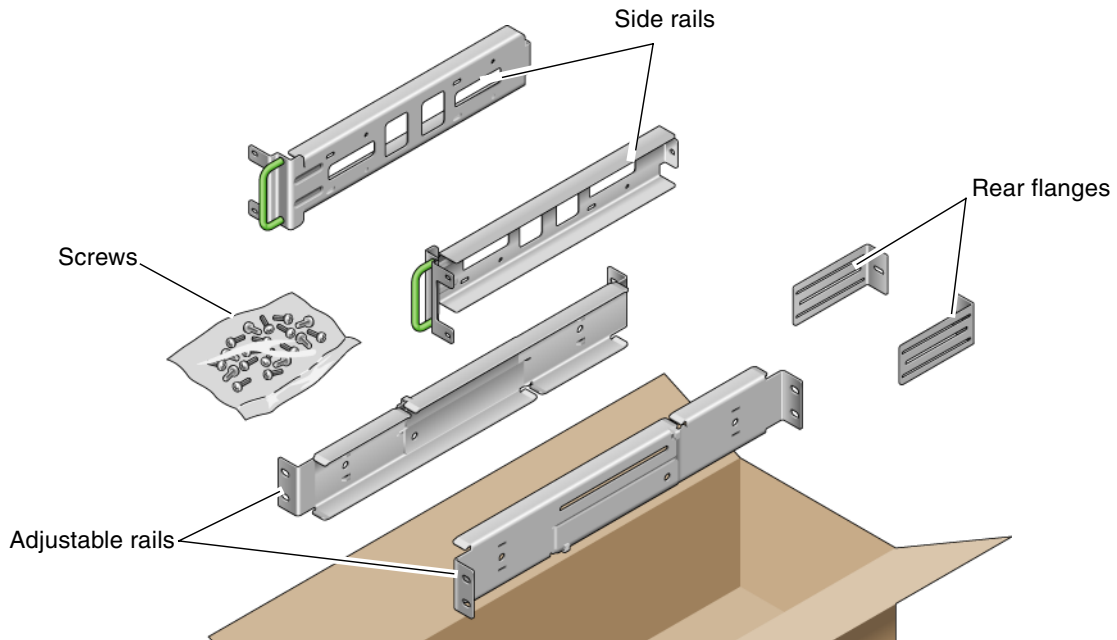

FIGURE 3-14 Contents of the Hardmount 600-mm 4-Post Kit
1. Get the adjustable rails from the rack kit (FIGURE 3-14).
7. Get the rear flanges from the rack kit (FIGURE 3-14).
9. Get the side rails from the rack kit (FIGURE 3-14).